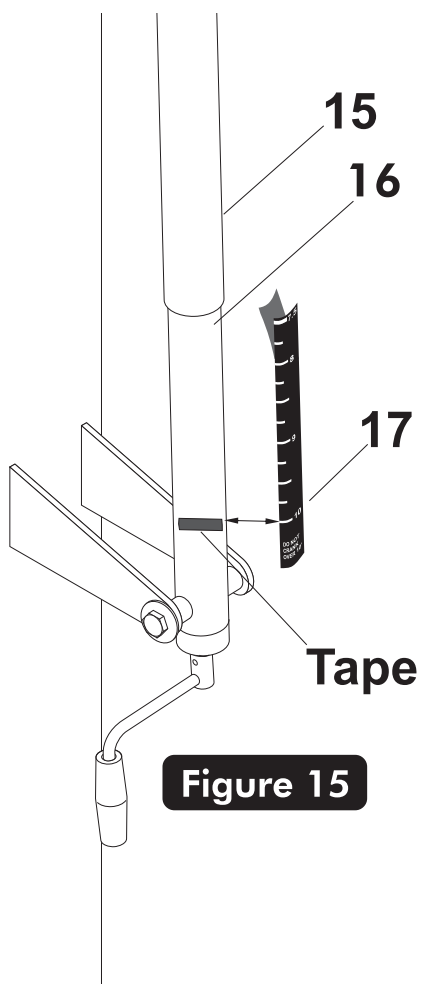

Figure 15
26. Remove the adhesive backing from the Height Decal (#17). Next, carefully align and stick decal to backside of steel actuator (#16) starting at the **10 ft mark first**. Be sure to keep the height decal straight and rub out all air bubbles. See **Figure 15**.